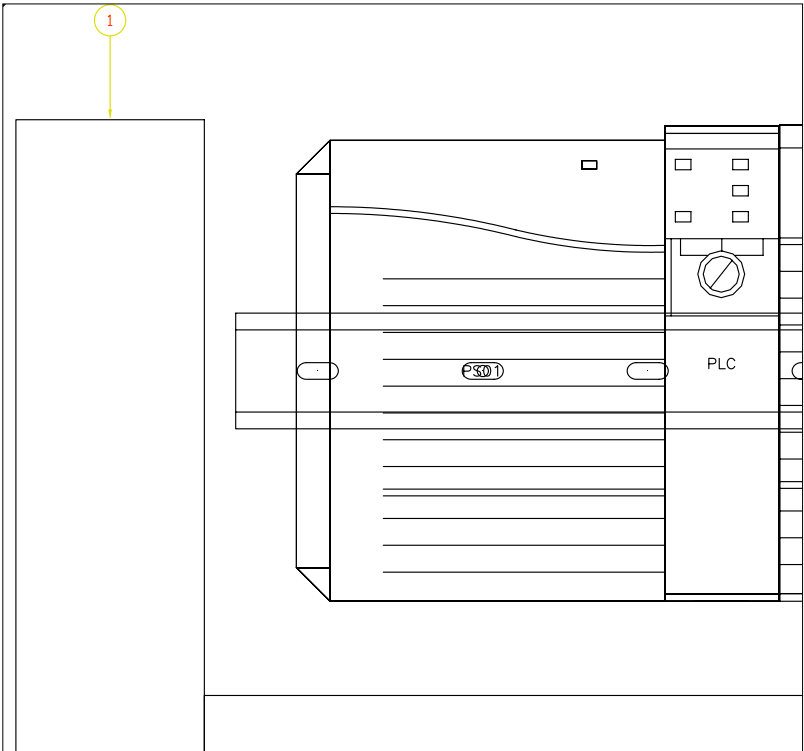

Figure P2-16 The balloon inserted in the PAN-01 DIN Rail
5. Press ENTER; the balloon is inserted in the **PAN-01** DIN Rail, as shown in Figure P2-16; you